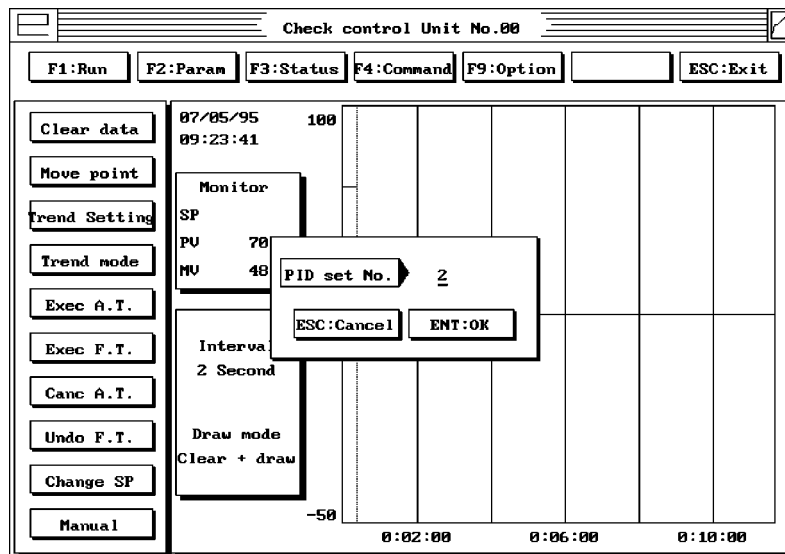

Figure 25
3. You should now see a pop-up window that prompts you to input the appropriate PID set number (Figure 25).